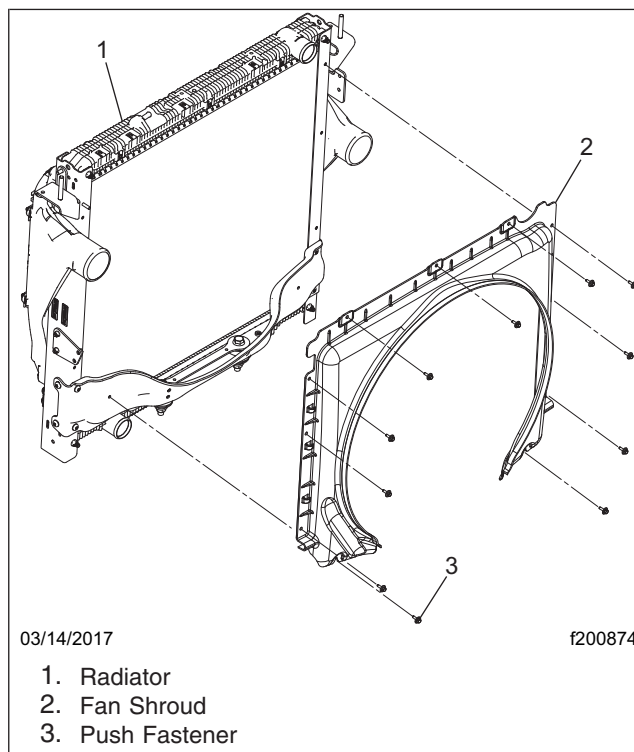

Fig. 7, Fan Shroud
15. Remove the upper fan shroud. See Fig. 7.
6. Install the upper fan shroud. See Fig. 7.